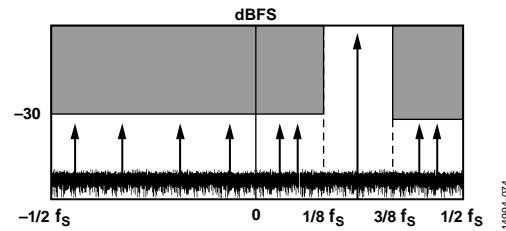
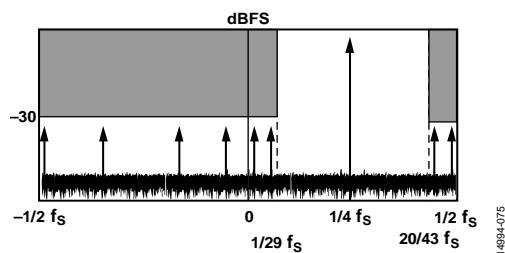

Figure 86. 25% VDR Bandwidth, Complex Mode
Figure 87. 43% VDR Bandwidth, Complex Mode
The complex mode of VDR works with selectable bandwidths of 25% of the sample rate (50% of the Nyquist band) and 43% of the sample rate (86% of the Nyquist band). Figure 86 and Figure 87 show the frequency zones for VDR in the complex mode. When operating VDR in complex mode, place in-phase (I) input signal data in Channel A and place quadrature (Q) signal data in Channel B.
Figure 86 shows the frequency zones for the 25% bandwidth VDR mode with a center frequency of  $f_s/4$  (tuning word = 0x04). The frequency zones where the amplitude may not exceed  $-30$  dBFS are the upper and lower portions of the Nyquist band extending into the complex domain.
Table 30 and Table 31 show the tuning words and frequency values for the 43% complex mode. Table 30 shows the relative frequency values, and Table 31 shows the absolute frequency values based on a sample rate of 491.52 MSPS. Figure 87 shows the frequency zones for the 43% BW VDR mode with a center frequency ( $f_{VDR}$ ) of  $f_s/4$  (tuning word = 0x04). The frequency zones where the amplitude may not exceed -30 dBFS are the upper and lower portions of the Nyquist band extending into the complex domain.